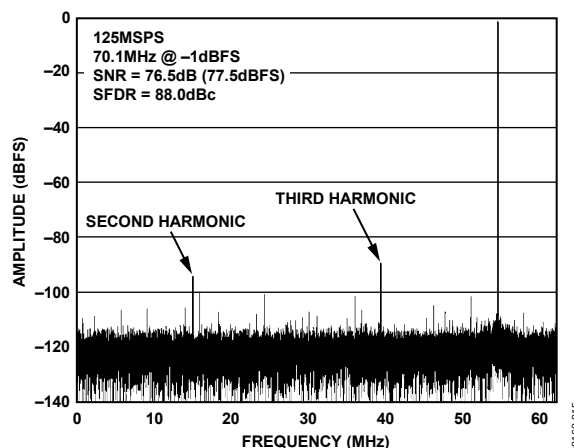

Figure 15. Typical FFT, AD9268/AD9258
3. Click the disk icon within the **Graph** window to save the performance plot data as a .csv formatted file. See Figure 15 for an example.